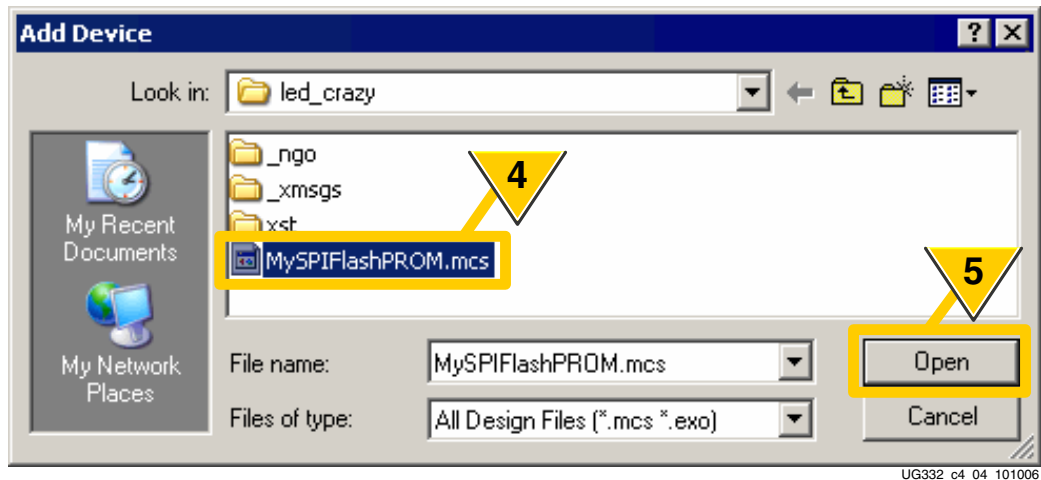

Figure 12-7: Select a Previously-formatted PROM File
4. Select a previously-formatted PROM file, as shown in Figure 12-7.